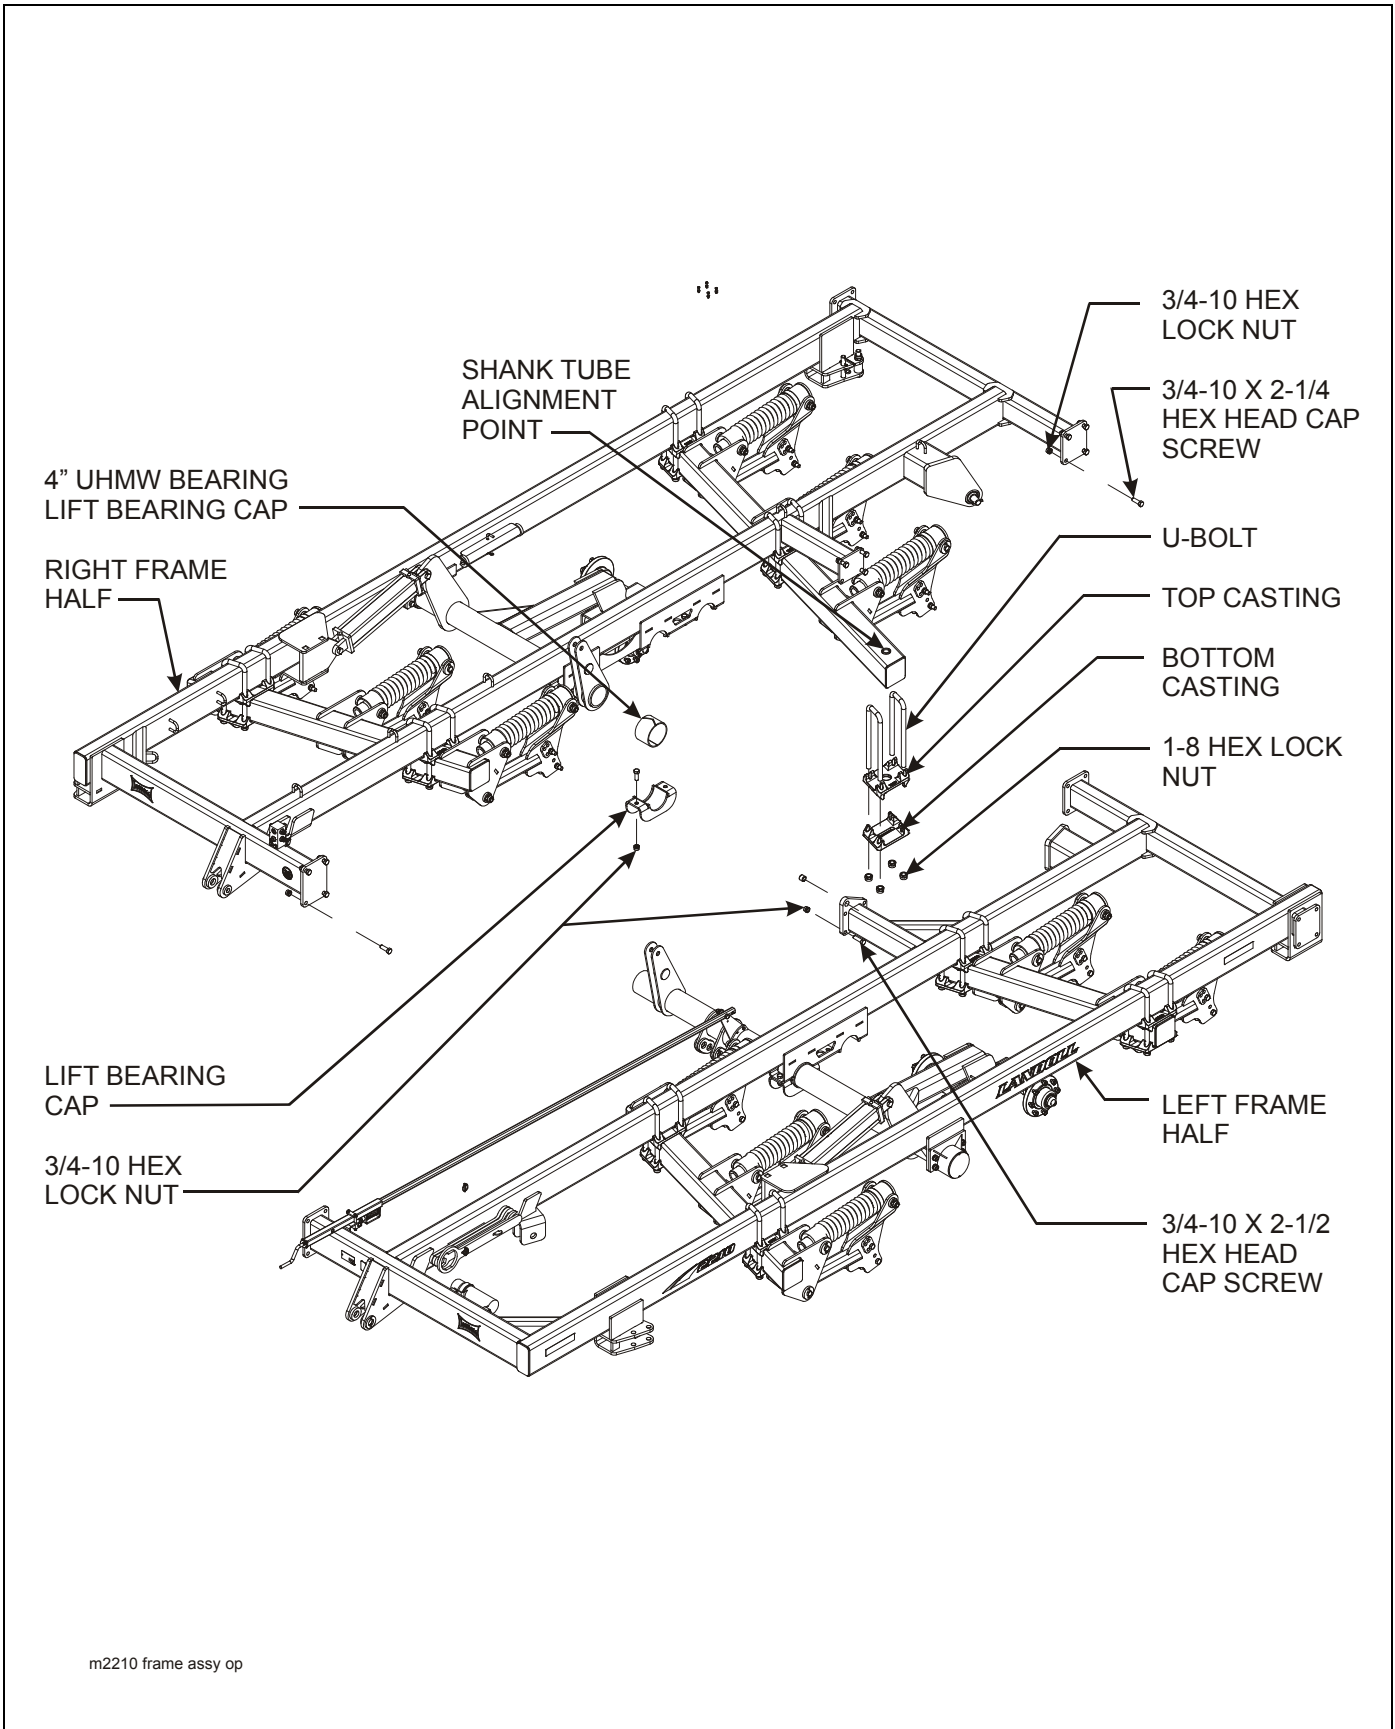

Figure 3-1: Frame and Lift Installation
2. Insert top casting (p/n 150167) onto shank tube alignment point with other point under the frame when fully assembled. Note that top and bottom castings have p/n cast on them **(See Figure 3-1.)**